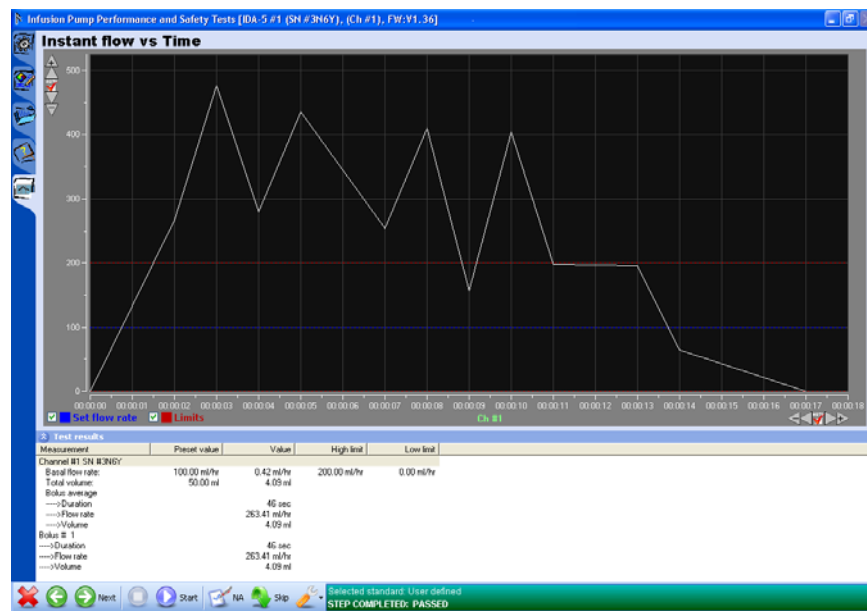

Figure 3-22. PCA Test
6. Click ◻ to stop the test. The PCA graph of the sensed boluses are shown in Figure 3-22.